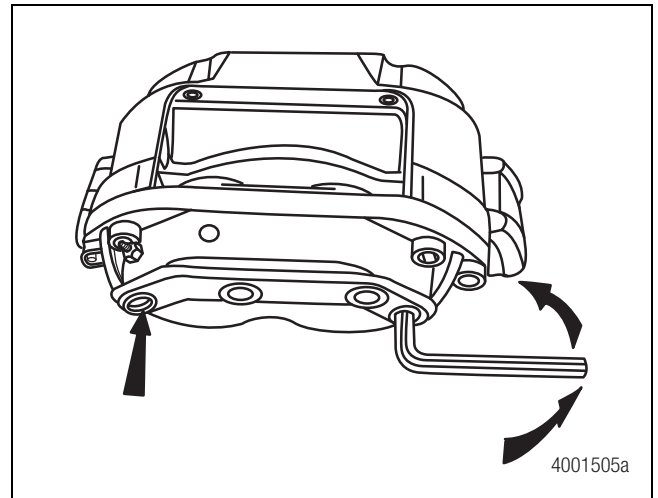

Figure 3.7
3. Remove the socket head guide pin bolts while holding the guide pin sleeves. Figure 3.7.